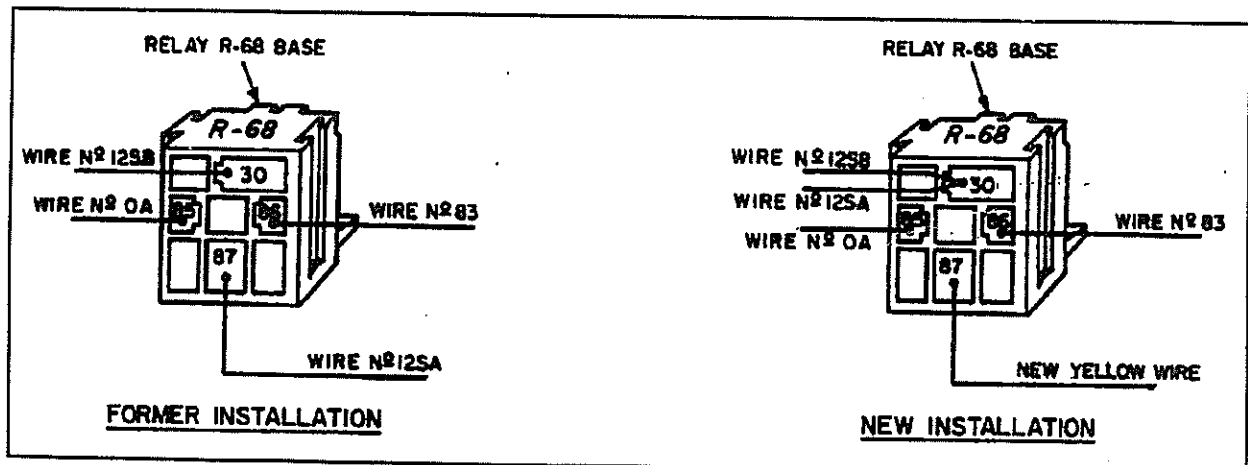

Fig. 2
12. Join wires #12SA and #12SB together, crimp a female connector #56-1181 (supplied with kit), then insert it in position #30 of relay R-68 base. Refer to figure 2.